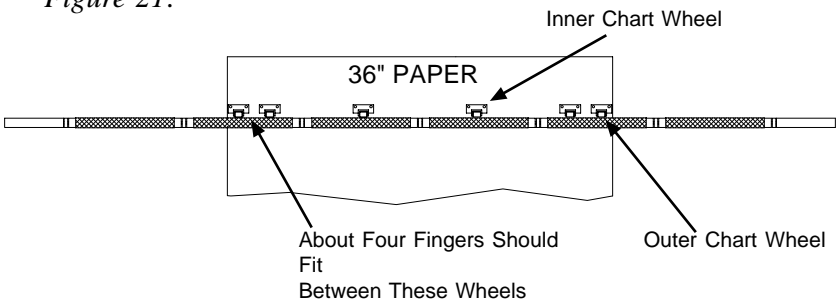

Figure 21. Positioning the chart wheels for 36" (91 cm) paper.
3. The inner chart wheels should be equally spaced as shown in *Figure 21*.